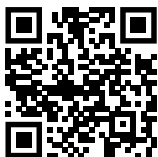

Fig. 151
- Öppna Liebherr SmartMonitoring Dashboard. (se Fig. 151)